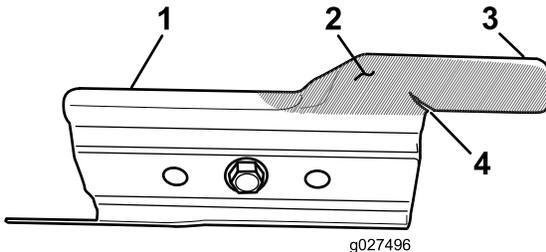

Figure 30
Carefully examine the accelerator for excessive wear (Figure 30). Because sand and abrasive material can wear away the metal (especially in the area shown as item 2 in Figure 30), check the accelerator before using the machine. If you notice that a tab on the accelerator has been worn down to a sharp edge or there is a crack, replace the accelerator; refer to Removing the Blade (page 27).